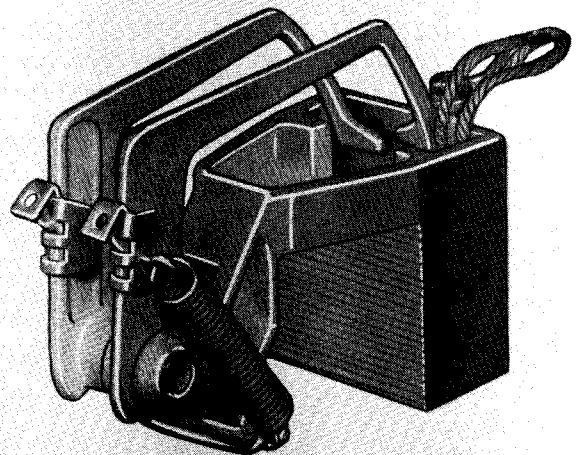

FIG. 3. "UNIFORCE" Brushholder
**Brushholders.** These machines are fitted with the "UNIFORCE" brushholder. The "UNIFORCE" brushholder maintains essentially constant pressure during the life of the brush. It requires no adjustment to compensate for brush wear. (See Fig. 3).